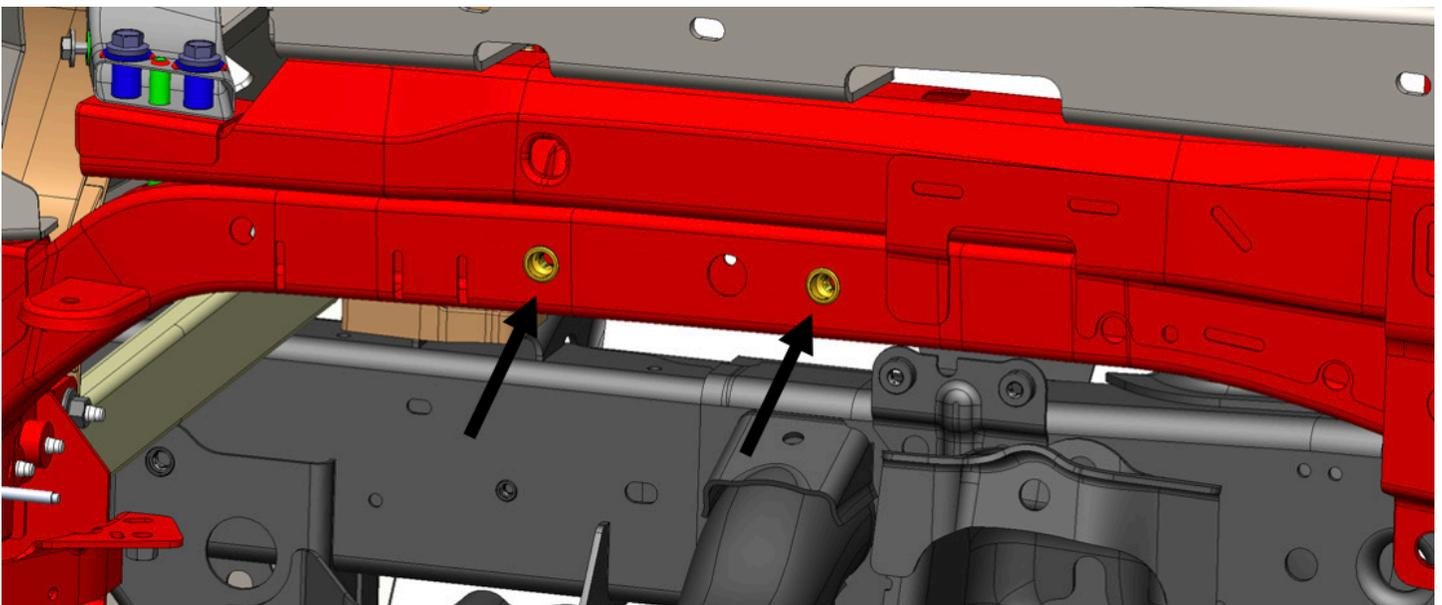

Figure 25
22. To install the inner fenders: Ream out the rear existing hole in the upper chassis rail with the included 17/64" drill bit from the 50160-HW. With the expendable tool threaded into the Rivnut, insert the Rivnuts into the holes making sure they fit in far enough to flush the collar of the Rivnut to fender panel. Figure 25.